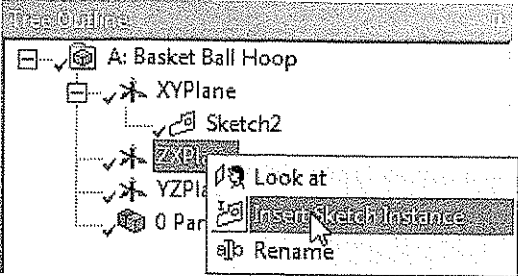

Figure 5-39 Choosing the **Insert Sketch Instance** option from the shortcut menu
21. Choose **Insert Sketch Instance** from the shortcut menu, refer to Figure 5-39; **Sketch2** is added under the **ZXPlane** node.